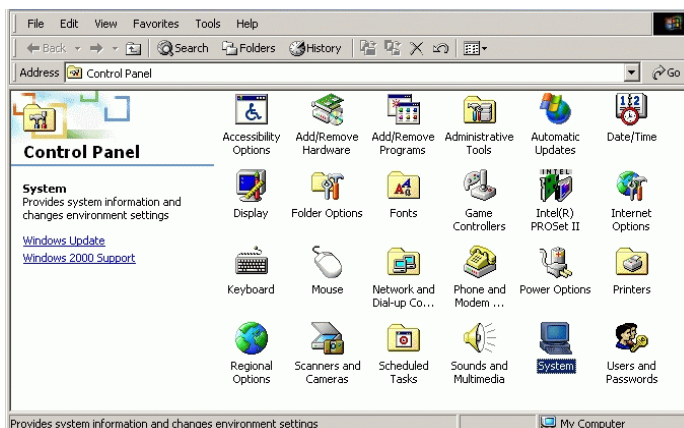

Figure 2-18 Control Panel Window
1. At the Windows 2000 desktop, click *Start* at the left side of the task bar (bottom of the desktop), then select *Settings*, then *Control Panel*. The *Control Panel* window displays (Figure 2-18).
- At the Windows 2000 desktop, click *Start* at the left side of the task bar, then select *Settings*, then *Control Panel*. The *Control Panel* window displays (Figure 2-18).